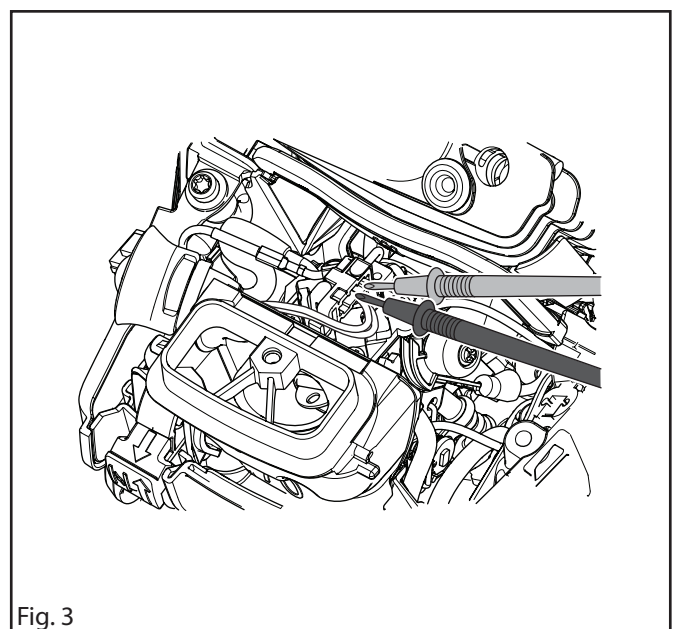

Fig. 3
1. Attach the measurement probes into the cable holder as shown in figure 3.